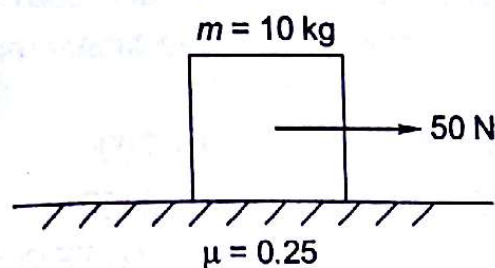

Fig. 19.17
- 19.1 A block of mass 10 kg is placed on a rough horizontal floor as shown in Fig. 19.17. A force of 50 N is applied on block and block covers a distance of 10 m. μ between block and floor is 0.25, what is the velocity gained by block?